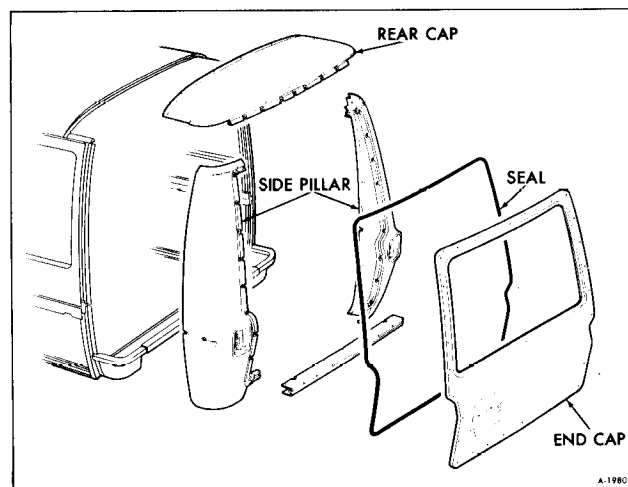

Figure 30-End Cap Components
3. Remove end cap to body retaining screws (32) from end cap (See figure 30).